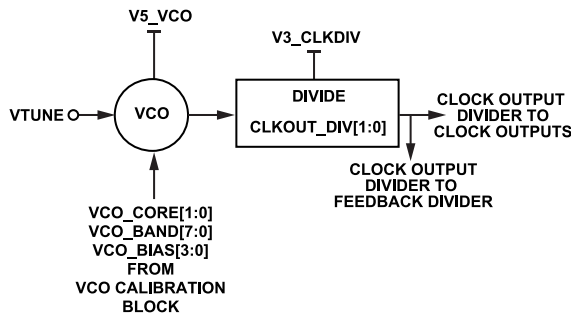

Figure 73. VCO and Clock Output Divider
The VCO core consists of four separate VCOs, each of which uses 256 overlapping bands, which allows the device to cover a wide frequency range without large VCO sensitivity ( $K_{VCO}$ ). The output frequency can be further extended by utilizing the output divider (see Figure 73).
A 2-bit divider, CLKOUT\_DIV, in Figure 73 is used to reduce the frequency seen at the output buffer and feedback divider. The clock output divide value (O) may be set to 1, 2, 4, or 8. Use the CLKOUT\_DIV bit to directly program the divide ratio. CLKOUT\_DIV is located inside the PLL loop. Therefore, any change to CLKOUT\_DIV requires a change to the N\_INT bit fields, Bits[11:0] to maintain the same fPFD and results in the PLL losing lock for a few loop time constants. For more information, see Table 18. For the relationship between the fREF, fPFD, fVCO, and fOUT frequencies, see the Output Frequency section.